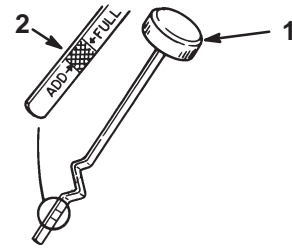

Figure 15
8. Unscrew the oil dipstick and wipe the metal end clean (Fig. 15).
- Slowly pour approximately 80% of the specified amount of oil into the fill hole (Fig. 15). Check the oil level; refer to steps 4 and 5 of Checking the Oil Level on page 21.
- Slowly pour about 80% of the specified amount of oil into the fill hole (Fig. 15). Check the oil level; refer to steps 8 and 9 of Checking the Oil Level on page 21.